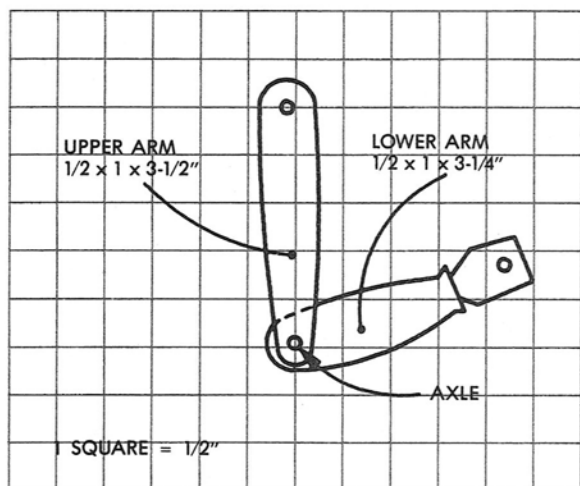

Figure 4-3. Arm detail.
6. Mount the torso between the legs with a $3/32$ in. brass rod. Position the right arm. Cut an angled piece out of the right shoulder so the hand will be in the center of the auto front. Test the arm as the torso moves to make sure it doesn't strike the car, then attach it to the torso with glue and brads. Drill small holes at the shoulder, elbow, and hand of the left arm pieces (Fig. 4-3). Hold the shoulder and hand in position with a $3/4$ in. small roundhead screw and the elbows together loosely with wire. The joints should move freely.